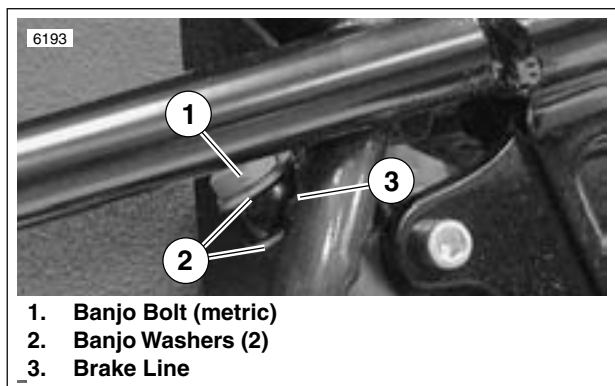

Figure 2-46. Rear Master Cylinder Banjo Bolt (Typical)
3. See Figure 2-46. Remove banjo bolt (1) (metric) and two (2) banjo washers to disconnect brake line (3) from rear master cylinder. Discard banjo washers.
- See Figure 2-46. Connect brake line (3) to master cylinder with two new banjo washers (2) and banjo bolt (1) (metric). Tighten to 16-20 ft-lbs (22-27 Nm).